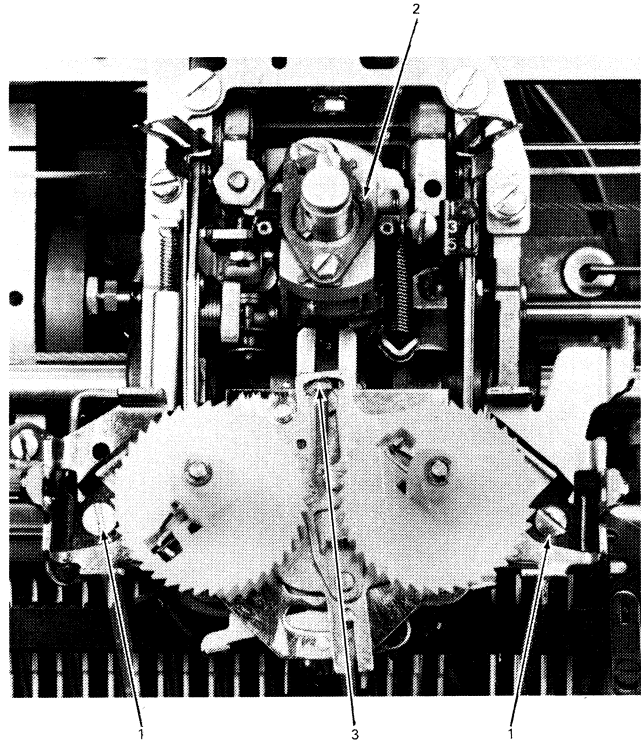

Figure 4-1. Ribbon Mechanism Removal
2. Remove the ribbon feed mounting screws and clips (No. 1, Figure 4-1).
3. Hold the tilt ring (No. 2, Figure 4-1) toward the rear of the printer.
4. With the other hand, grasp the ribbon mechanism and hold the feed pawl to the rear (No. 3, Figure 4-1).